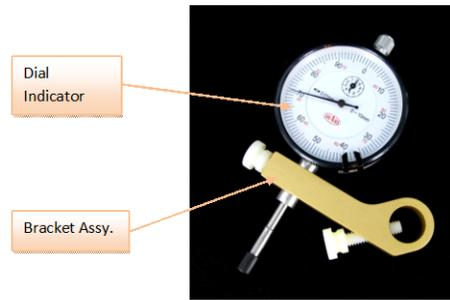

Figure 5
4.4.2.1 Remove the centering ring, dissolution vessel and assemble the dial indicator to the bracket assembly as shown in Figure 5.
4.5.2.1 Remove the centering ring, dissolution vessel and assemble the dial indicator to the bracket assembly as shown in Figure 5.
4.6.2.1 Remove the centering ring, dissolution vessel and assemble the dial indicator to the bracket assembly as shown in Figure 5.